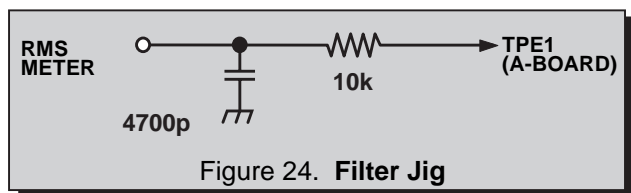

Figure 24. Filter Jig
2. Connect the RMS Meter with filter jig as shown in Fig. 24.